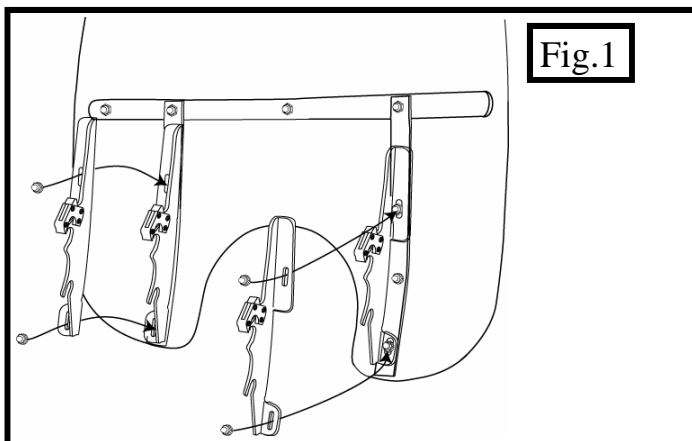

Fig. 1
2. Install the two mounting plates onto the windshield, using the bottom and third bolt up. Leave the nylon washers off. The small tab goes to the bottom, big one at the top. *Tabs point out, away from the headlight.* (see fig. 1)